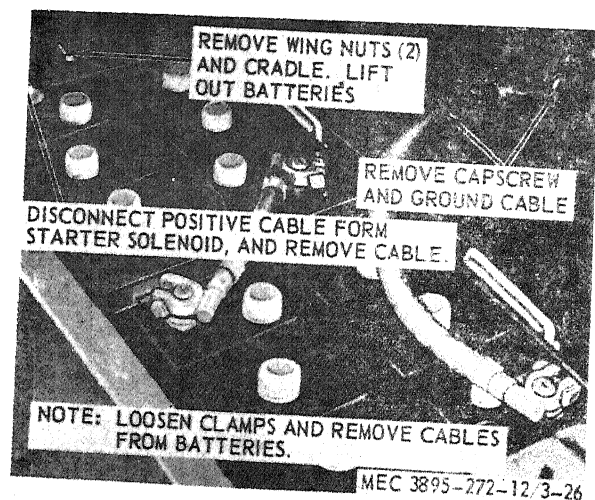

Figure 3-26. Batteries and battery cables, removal and installation.
a. *Removal.* Remove the batteries and battery cables as instructed on figure 3-26.
- (1) Clean all parts with an approved cleaning solvent.
- (2) Inspect the batteries for cracks, loose or broken terminals, and other damage. Test cells with a suitable tester and check specific gravity. See table 2-1, Chapter 2, Section I. Replace defective batteries.
- (3) Inspect cables for fraying, corrosion, and damage. Replace defective cables.
c. *Installation.* Install the batteries and cables in reverse of the instructions on figure 3-26.
- (1) Remove the batteries (para 3-60).
- (2) Remove the battery frame assembly as instructed on figure 3-26.
- (1) Install the battery frame in reverse of the instructions on figure 3-26.
- (2) Install the batteries (para 3-60).